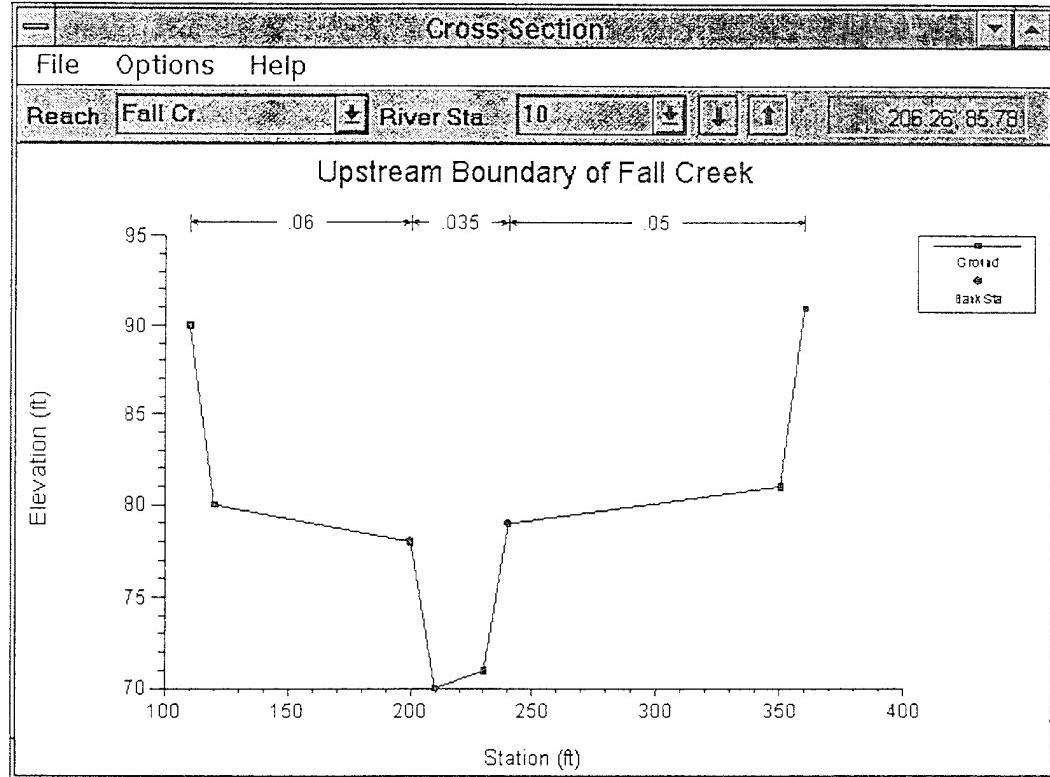

Figure 4.5 Cross Section Plot for river mile 10.0 of Fall Creek
5. Plot the cross section to visually inspect the data. This is accomplished by pressing the **Plot Cross Section** option under the **Plot** menu on the Cross Section Data Editor. The cross section should look the same as that shown in Figure 4.5.